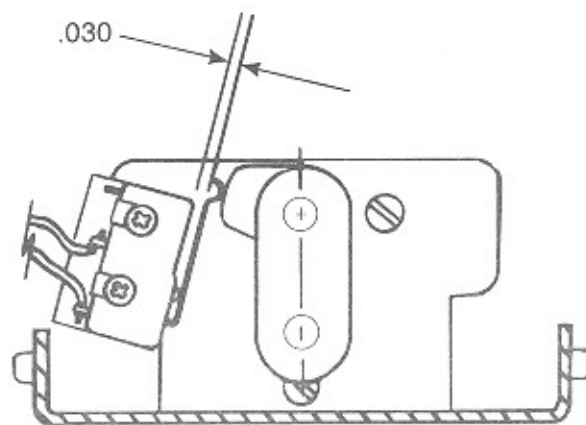

Figure 4-7. Stacker Home Switch Adjustment
Check for a gap of  $1/32$  (.030 inch feeler gauge) between the stacker switch arm and the stacker switch body as shown in *Figure 4-7*.
1. Loosen the two adjusting screws as shown in *Figure 4-7*.